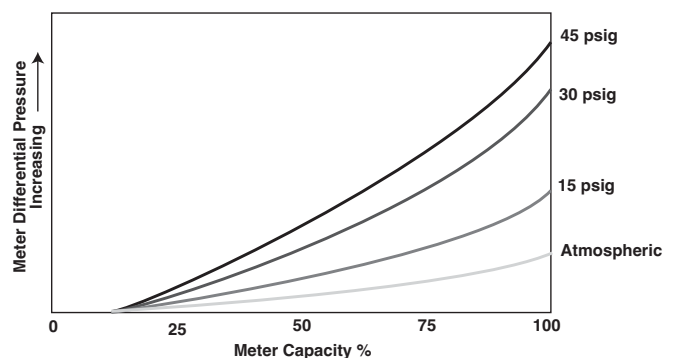

Figure 22 - Differential Curves change as pressure increases.
Developing an original differential baseline curve is recommended when the meter is first installed. Since any change in flow rate, line pressure or specific gravity will cause a change in the differential, at least three (3) test points are required at gas flow rates from 25% to 100% of meter capacity. (As shown in *Figure 22*, the resulting points will be non-linear, so a minimum of three points is necessary to establish a curve.) Plot the points on a graph and then connect the points to form a curve. This provides an accurate baseline for comparison to later tests. To help with record keeping, a data chart like the one shown in